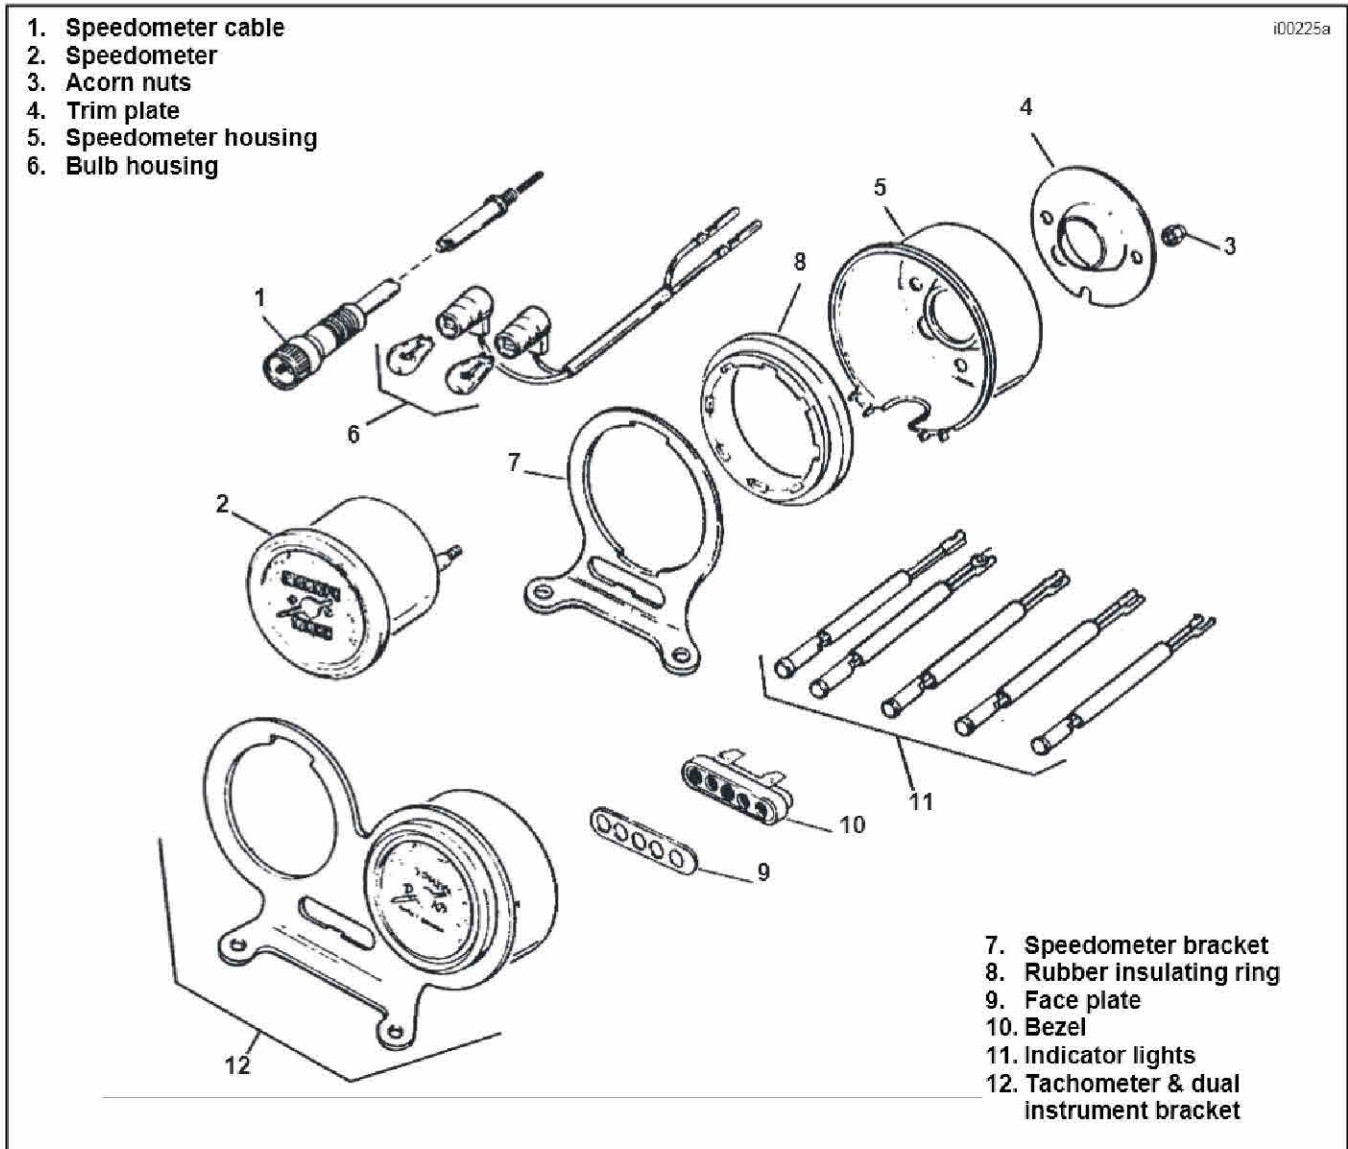
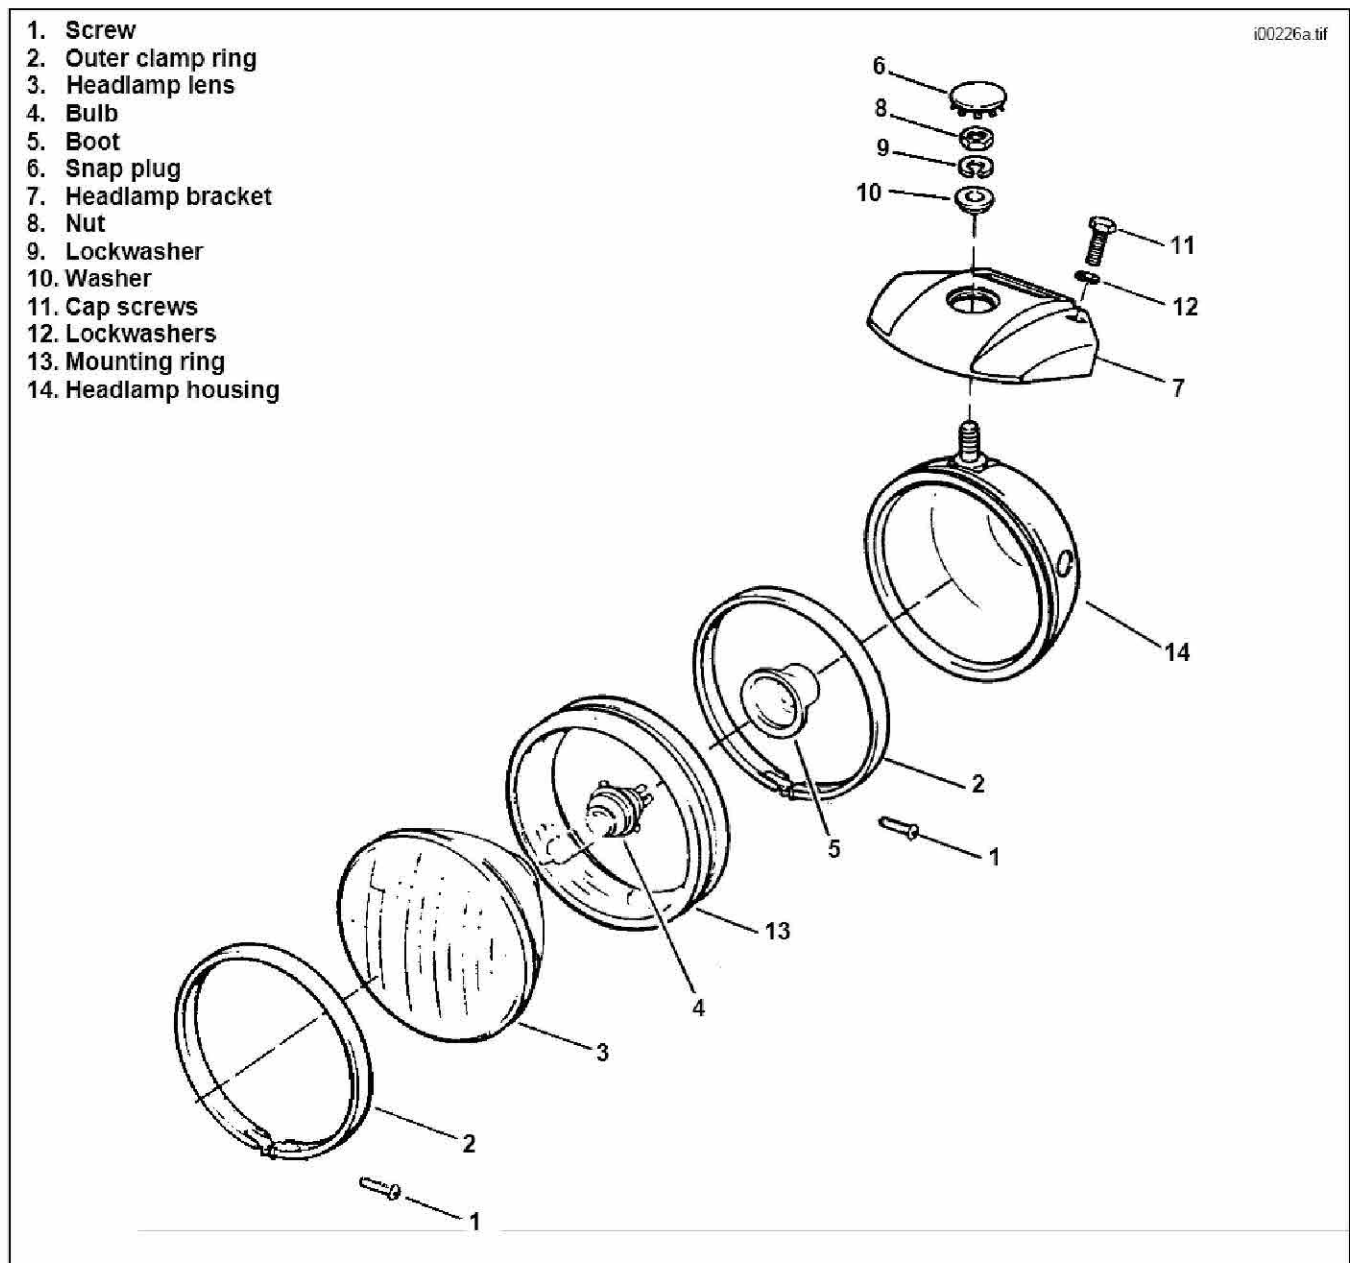
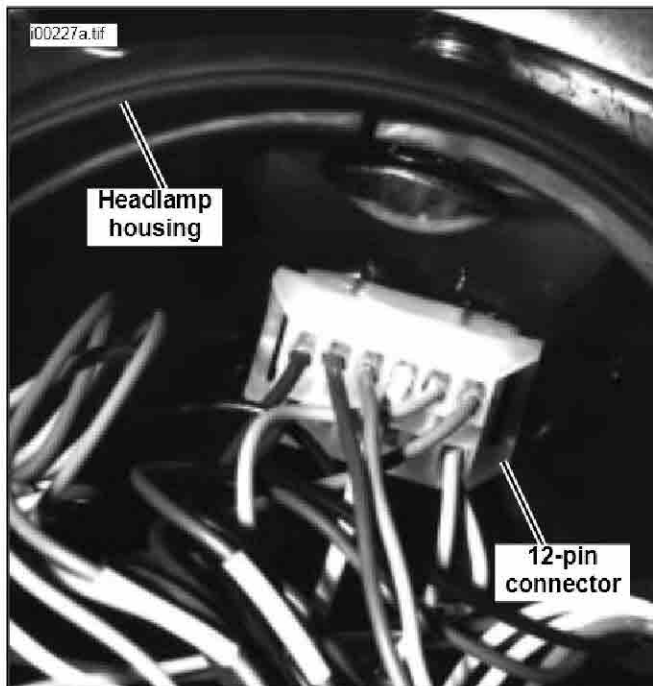

Figure 1. Speedometer
Figure 2. Headlamp
Figure 3. Headlamp Electrical Connector -1992 & 1993
1. See Figure 1. Disconnect speedometer cable (1) from the speedometer (2).
2. Remove acorn nuts (3) from the rear of the speedometer (2). Remove the trim plate (4) and speedometer housing (5).
3. Gently pull the bulb housings (6) out of the rear of the speedometer.
4. Remove the speedometer from the speedometer bracket (7). Remove the rubber insulating ring (8) and save.
1. See Figure 2. Loosen screw (1) securing the outer clamp ring (2). Remove the outer clamp ring and headlamp lens (3). Remove bulb (4) and boot (5) as an assembly.
2. Remove the snap plug (6) on top of the headlamp bracket (7) and remove the nut (8), lockwasher (9) and washer (10) beneath it.
3. Remove cap screws (11) and lockwashers (12) securing the headlamp bracket (7) , and remove the bracket.
4. See Figures 3, 6A, 8 and 9. Disconnect the 12-pin electrical connector located at the top center of the headlamp housing by squeezing the tabs and pulling. Disconnect the 2-pin electrical connectors outside the headlamp housing the same way.
1. See Figure 1. Use a thin-blade screwdriver and pry the indicator light face plate (9) from the bezel (10).
2. Push the indicator lights (11) backward (toward the rider) and out of the bezel.
- See Figure 1. Install the speedometer (3) using the rubber insulating ring (8) from the old speedometer bracket.
- Insert the speedometer bulb housings (6) and install the cover (5) and trim plate (4). Secure cover and plate with acorn nuts (2).
- See Figure 2. Place the headlamp bracket in position and install cap screws (11) and lockwashers (12) securing the bracket (7).
- Place the headlamp in position in the bracket and install headlamp washer (10), lockwasher (9) and nut (8).
- Install bulb (4) and boot (5). Install headlamp lens (3). Tighten screw (1) and outer clamp ring (2).
- See Figure 2. Install the snap plug (6) on top of the headlamp bracket.